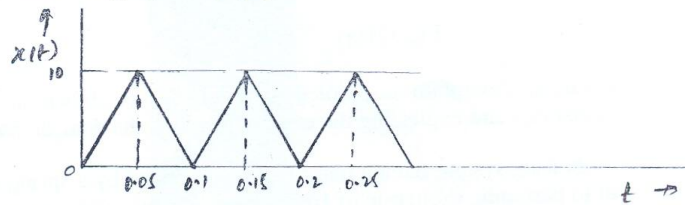

Fig. Q7
- 7 What are Fourier transforms and Determine the harmonic series of the following periodic motion as shown in Fig. Q7 (20 Marks)